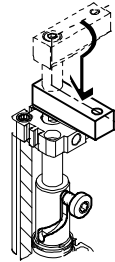

Bild 2
- swivel-linear movement of 90° in a clockwise direction (Bild 2)